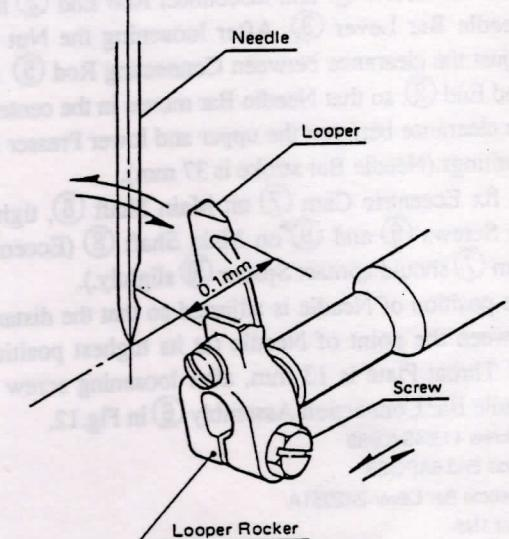

Fig. 10
2.Position of Needle and Looper (Fig.10)
Looper must pass the concave part of Needle with clearance of 0.1 mm as shown in Fig.10. Adjustment of the clearance can be done after loosening the screw of Looper Rocker.